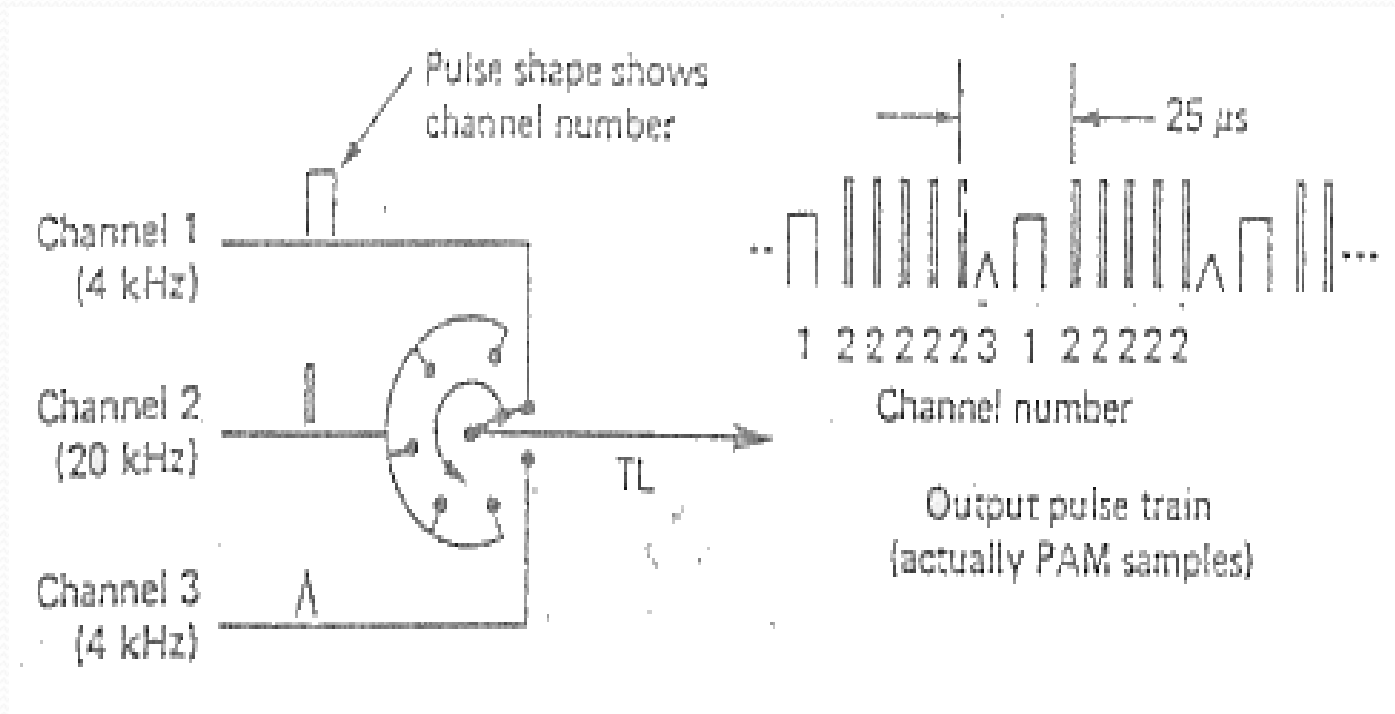

Figure 11-7. Possible TDM solution.
- If you sketch this, as is done in Figure 11-7, you discover that there are